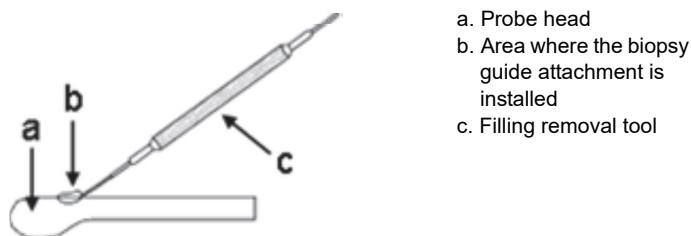

Figure 9-19. Remove the filling
2. When installing the attachment for the first time, remove the filling from the probe head where the biopsy guide attachment will be installed (Figure 9-19).